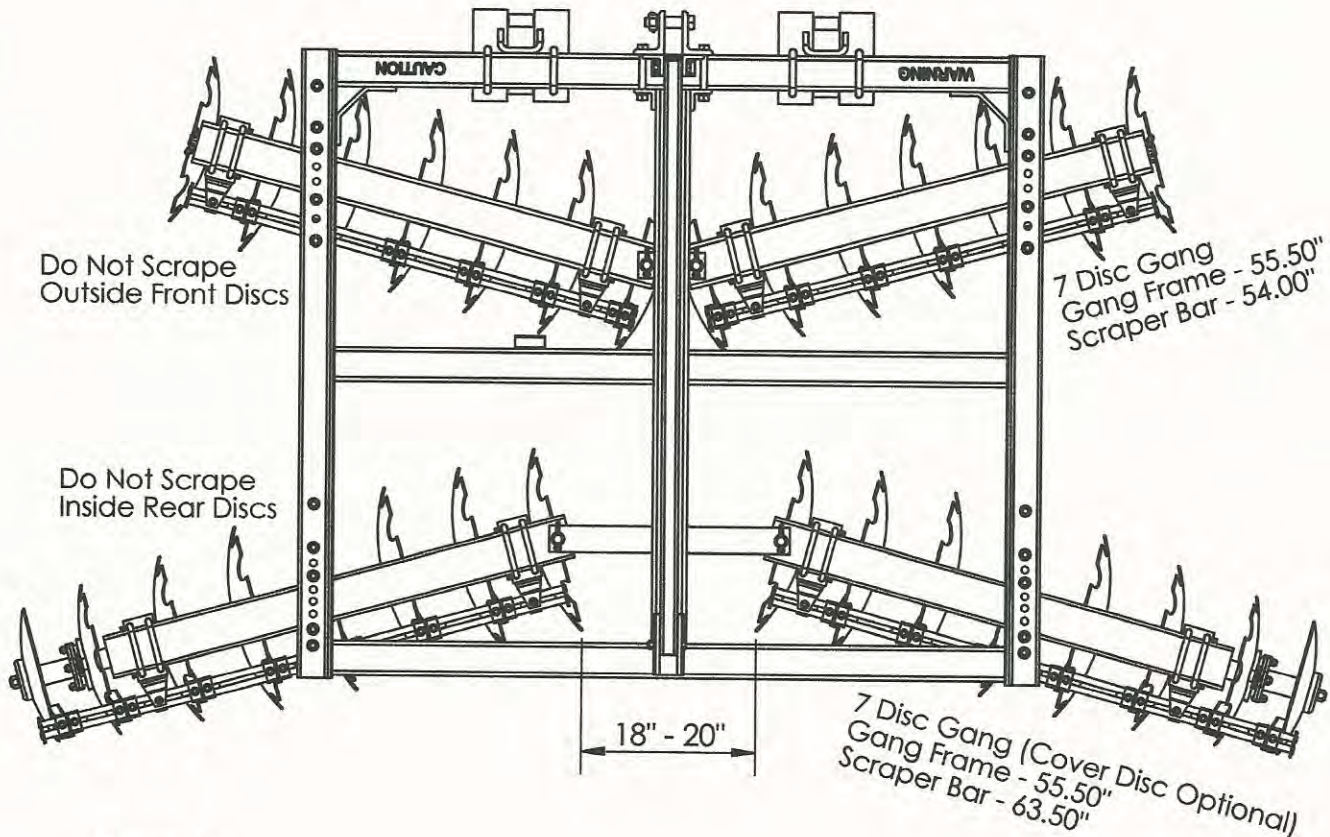

Figure 8
D & E) To Attach Disc Gangs and Scrapers continued... (Refer to Figure 8)
- 1) The *Model 66* is configured in eight different widths of cut with 7 ½" Disc Spacing, 9" Spacing, or a combination of 9" Spacing on the front disc gangs and 7 ½" Spacing on the rear. **Refer to Table 1 for Disc Gang information.** After attaching the Right Front and Left Front Disc Gangs slide the inside two (2) Blades close to but not touching one another as shown in Figure 8 above. Next, attach the Right Rear and Left Rear Disc Gangs and slide the inside two (2) Blades approximately 18 to 20 inches apart as shown in Figure 8. For further information on the positioning of the Disc Gangs refer to the Operation Section of this manual (Section 3).